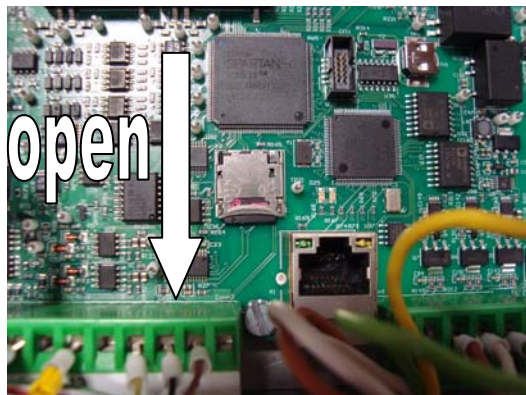

Figure 14
3. Insert the micro SD card into the interface box in SD Card slot. Please note that it is hinged, and therefore it should be pulled back (white arrow) before it can be lifted upwards (fig. 14)